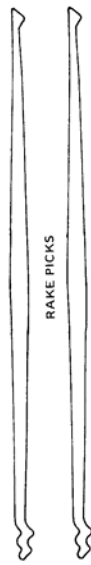

Fig 10
4. A small set of lock picks and torsion wrench. These can be purchased from a locksmith supply house or made yourself. In Figure 10, 11, & 12 you will find full size templates for two of the most popular picks, and a standard shape torsion wrench. Any source of steel that is approximately .025 inch thick may be